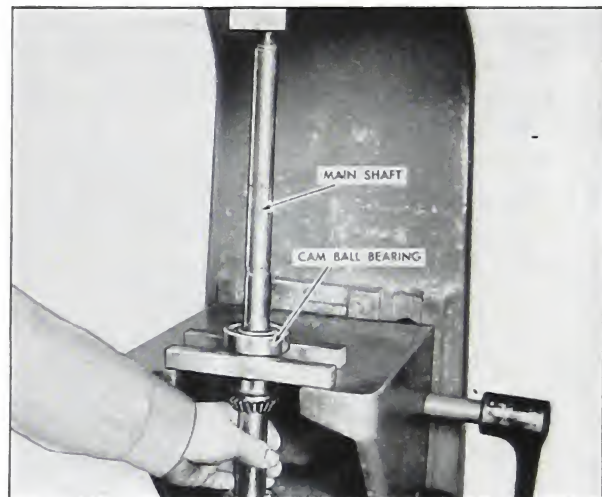

Fig. 5-52. Removing cam ball bearing
6. Remove the lock ring and press the cam ball bearing from the shaft. (Fig. 5-52).